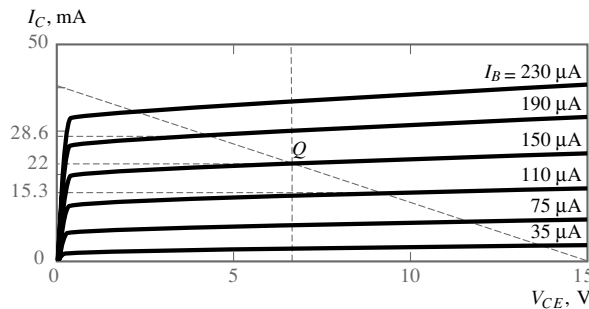

Figure 10.27 Operating point on the characteristic curve
The load line is shown in Figure 10.27. The intersection of the load line with the $150\text{-}\mu\text{A}$ base curve is the DC operating or quiescent point of the transistor amplifier, defined below by the three values $V_{CEQ} = 7.2\text{ V}$, $I_{CQ} = 22\text{ mA}$, and $I_{BQ} = 150\text{ }\mu\text{A}$.
2. *AC gain.* To determine the current gain, we resort, again, to the collector curves. Figure 10.27 indicates that if we consider the values corresponding to base currents of 190 and $110\text{ }\mu\text{A}$, the collector will see currents of 28.6 and 15.3 mA , respectively. We can think of these collector current excursions ΔI_C from the Q point as corresponding to the effects of an oscillation ΔI_B in the base current, and we can calculate the current gain of the BJT amplifier according to